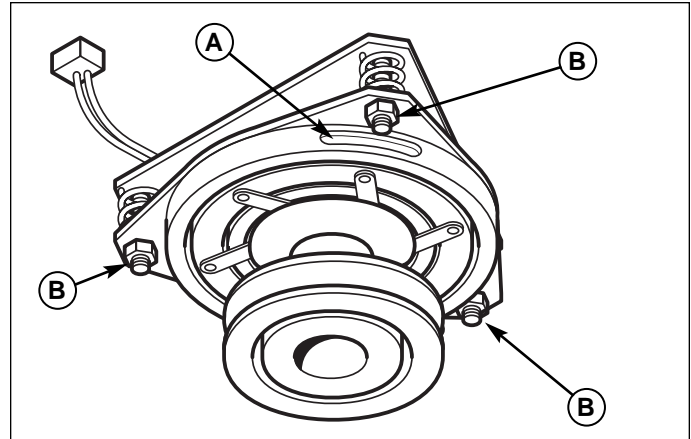

Figure 34. PTO Clutch Adjustment
2. See Figure 34. Note the position of the 3 adjustment windows (A) in the side of the brake plate and the nylock adjustment nuts (B).
4. Alternately tighten the adjustment nuts (B, Figure 34) until the rotor face and armature face just contacts the gauge.